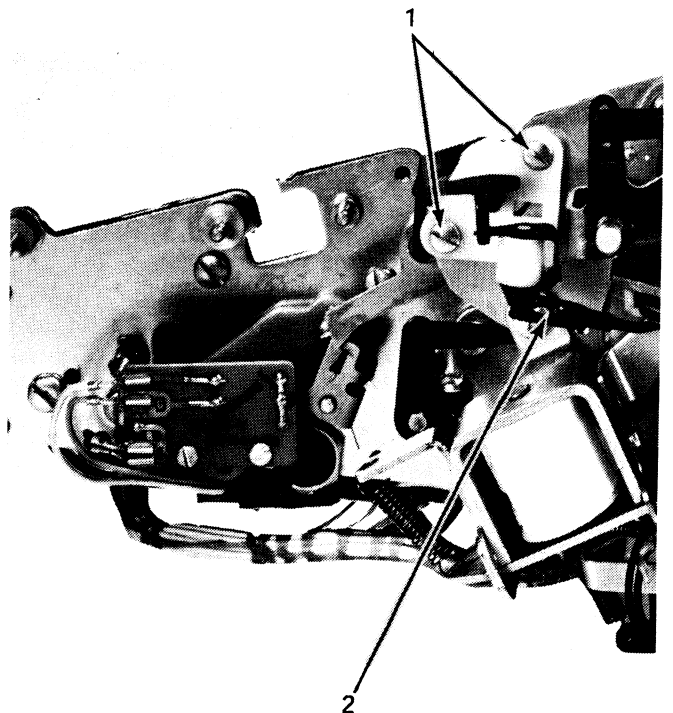

Figure 4-51. Keylever Removal (Right Side of Keyboard)
4. Remove the two screws (No. 1, Figure 4-51) and disconnect the carrier return unlatching link (No. 2, Figure 4-51).